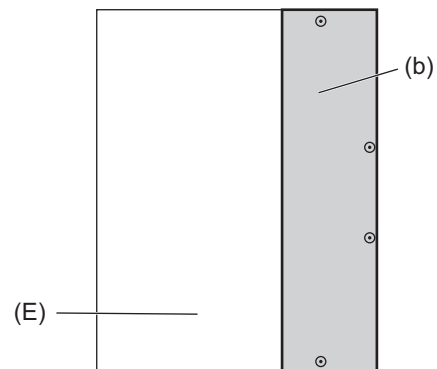

Fig.6
•To avoid dew condensation, use insulated screws in the places marked with circles in Figure 6.